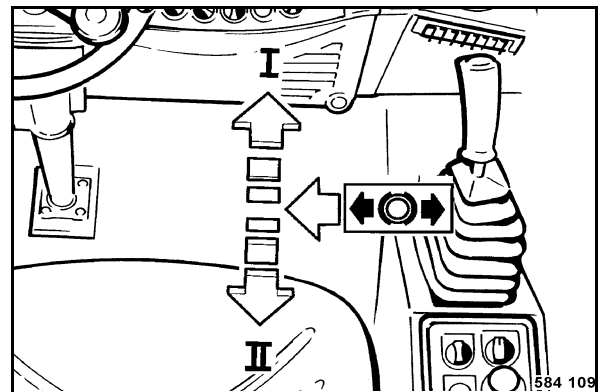

Fig. 180
- Move the travel lever (Fig. 180) forward, backwards and to braking position. Thereby check for function, light movement, clearance and damage.